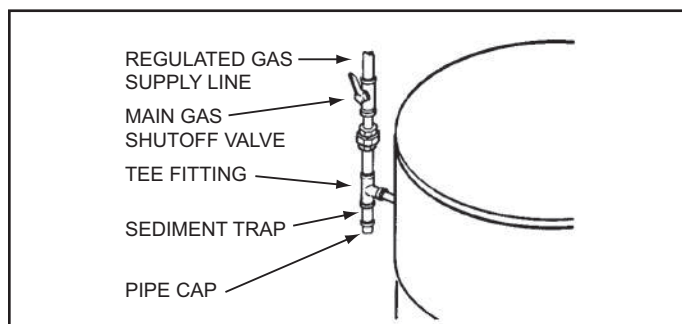

Figure 54
Ensure all gas pipe is clean on the inside before installation. To trap any dirt or foreign material in the gas supply line a sediment trap must be installed as shown in Figure 54. The sediment trap must be readily accessible and not subject to freezing conditions. Install in accordance with the recommendations of the local gas utility company.
7. Install a sediment trap as shown in Figure 54 on page 39.
8. Install a Main Gas Shutoff valve in the supply gas line as shown in Figure 54 on page 39.
1. For test pressures exceeding 1/2 psi (3.45 kPa) disconnect the water heater and its Main Gas Shutoff Valve from the gas supply piping system during testing, see Figure 54 on page 39. The gas supply line must be capped when disconnected from the water heater.